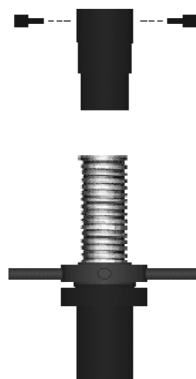

Figure 7-2 Remove the protection sleeve
1. Remove the protective sleeve, as **Figure 7-2** illustrates.